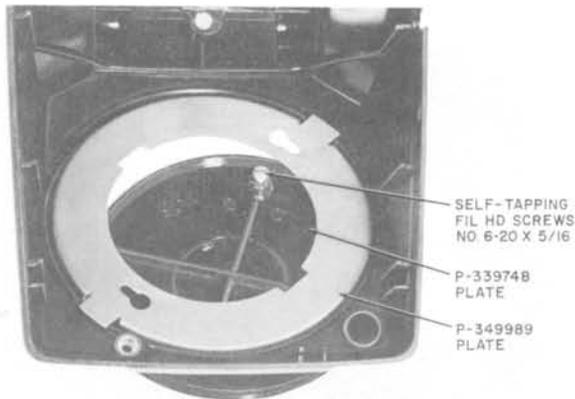

Fig. 6—500-Type Telephone Set With 95A Apparatus Blank
3.10 *95A (MD)*: Used only on sets with three-point dial mountings (Fig. 6).